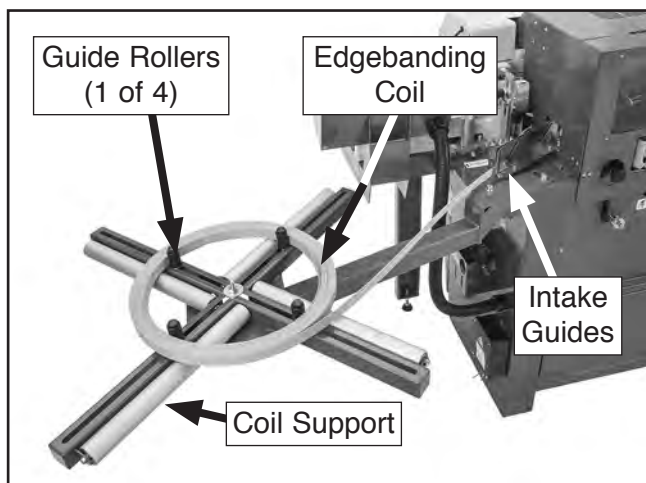

Figure 56. Edgebanding coil installed on coil support.
3. Loosen guide rollers on coil support (see **Figure 56**) and move them out to allow room for edgebanding coil.
4. Center edgebanding coil on coil support. Move guide rollers so they just touch coil, then tighten to secure (see **Figure 56**).